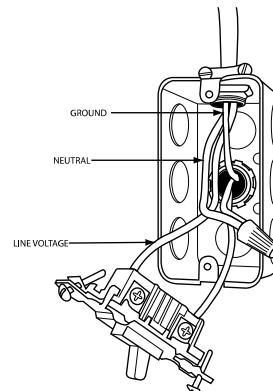

Fig. 27 – Field-Supplied Electrical Box on Furnace Casing
13. Complete electrical box wiring and installation. Connect line voltage leads, see Fig. 27. Use best practices (NEC in U.S. for wire bushings, strain relief, etc).